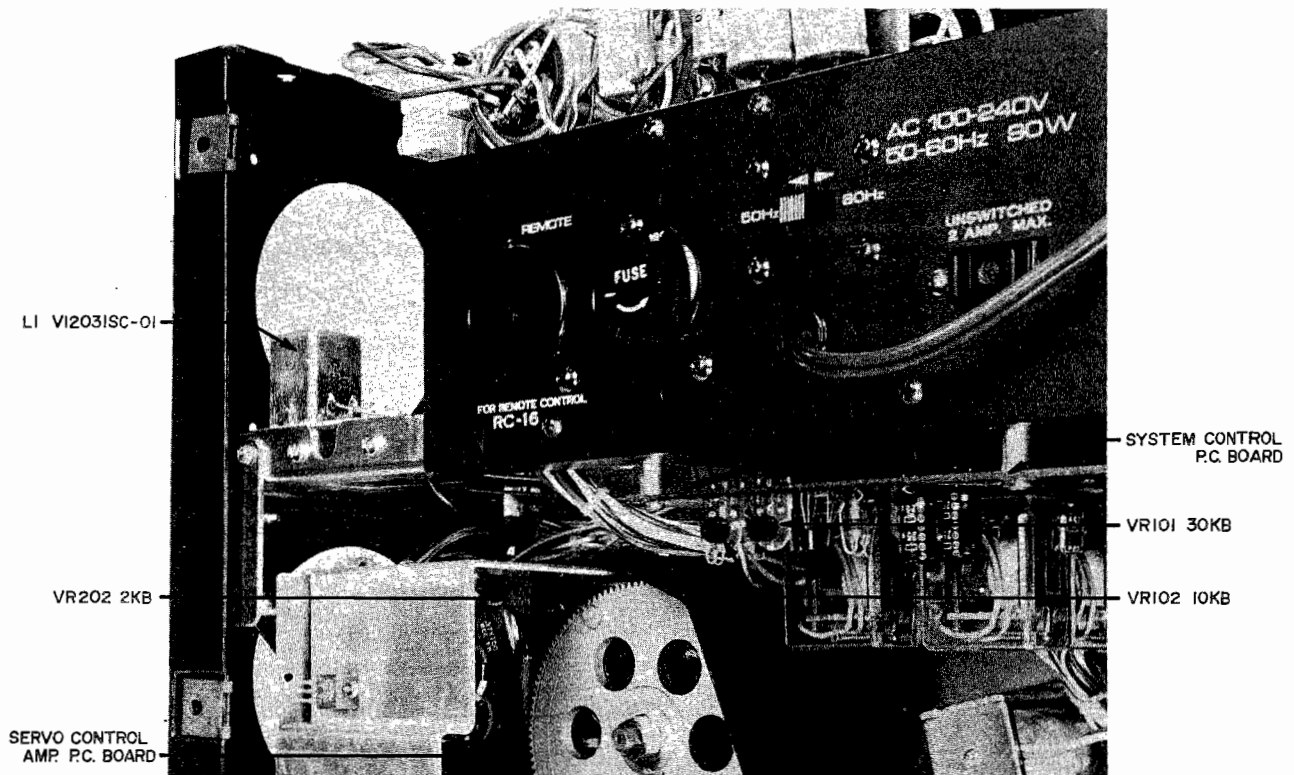

Fig. 8
- 3) Adjust the core of coil L1 (VI023SC-01) shown in Fig. 8 so that the Frequency Counter indication is 500 Hz  $\pm 1\%$ .
- 4) After the 3-3/4 ips (9.5 cm/sec.) tape speed adjustment has been completed, depress the 7-1/2 ips (19 cm/sec.) Tape Speed Selector and adjust Servo-Control P.C. Board semi-fixed resistor VR202 (2 kB) shown in Fig. 8 so that the frequency counter indication is 1,000 Hz  $+1/-0.5\%$ .
Adjust System Control P.C. Board semi-fixed resistor VR101 (30 kB) shown in Fig. 8 so that when the machine is switched from FWD to REV mode or from REV to FWD mode, the pinch wheel separates from the capstan in about 3 seconds.
- 2) Adjust System Control P.C. Board semi-fixed resistor VR102 (10 kB) shown in Fig. 8 so that when the machine is switched from F. FWD or RWD to FWD or REV mode, the time constant is about 1.5 seconds.